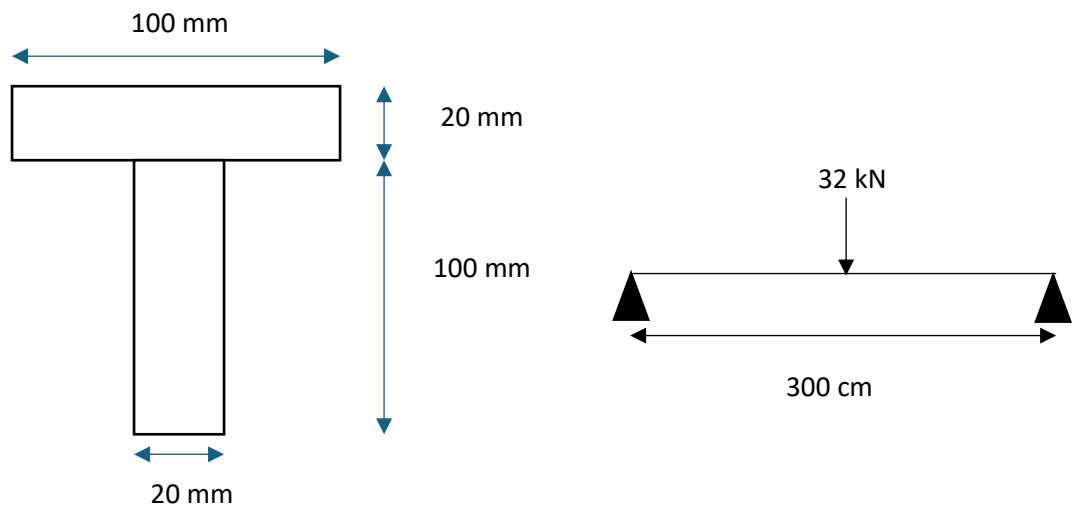

Figure 3(b) / Rajah 3(b)
- b) Figure 3(b) shows the cross-sectional of the simply supported beam.
Based on Figure 3(b), calculate: